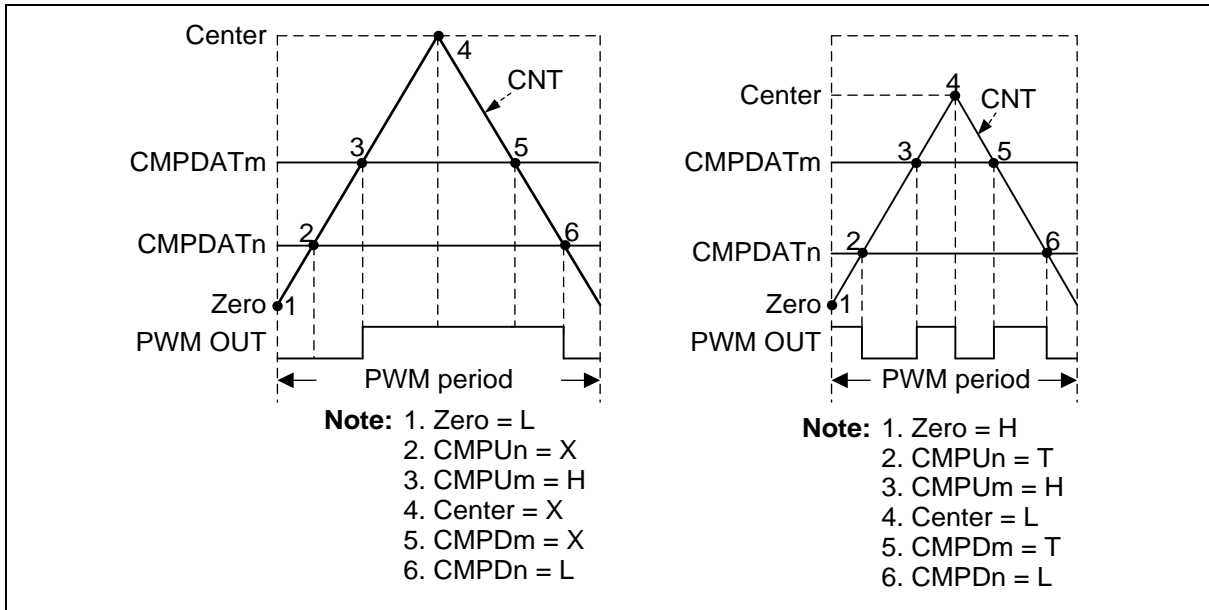

Figure 6.13-17 PWM Pulse Generation
Each event point can decide PWM waveform to do nothing (X), set Low (L), set High (H) or toggle (T) by setting the PWM\_WGCTL0 and PWM\_WGCTL1 registers. Using these points can easily generate asymmetric PWM pulse or variant waveform as shown in Figure 6.13-17. In the figure, PWM is in complementary mode, there are two comparators n and m to generate PWM pulse. n denotes even channel number 0, 2, or 4, and m denotes odd channel number 1, 3, or 5. n channel and m channel are complementary paired. Complementary mode uses two channels (CH0 and CH1, CH2 and CH3, or CH4 and CH5) as a pair of PWM outputs to generate complement paired waveforms. CMPU denotes CNT(PWM\_CNTn[15:0]) is equal to CMP(PWM\_CMPDATn[15:0]) when counting up. CMPD denotes CNT bits is equal to CMP bits when counting down.